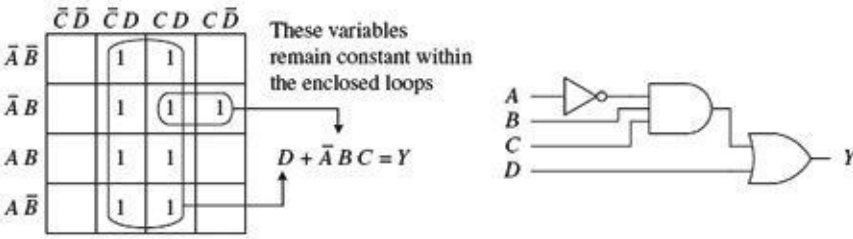

FIGURE 12.28
5. The SOP expression you end up with is the simplest possible expression. With it, you can create your logic circuit. You may need to apply some bubble pushing to make the final circuit practical, as shown in Fig. 12.28.
To apply Karnaugh mapping to four-input circuits, you apply the same basic steps used in the three-input scheme. However, now you must use a 4 × 4 Karnaugh map to hold all the necessary information. Figure 12.28 shows an example of how a four-input truth table (or unsimplified four-variable SOP expression) can be mapped and converted into a simplified SOP expression that can be used to create the final logic circuit.